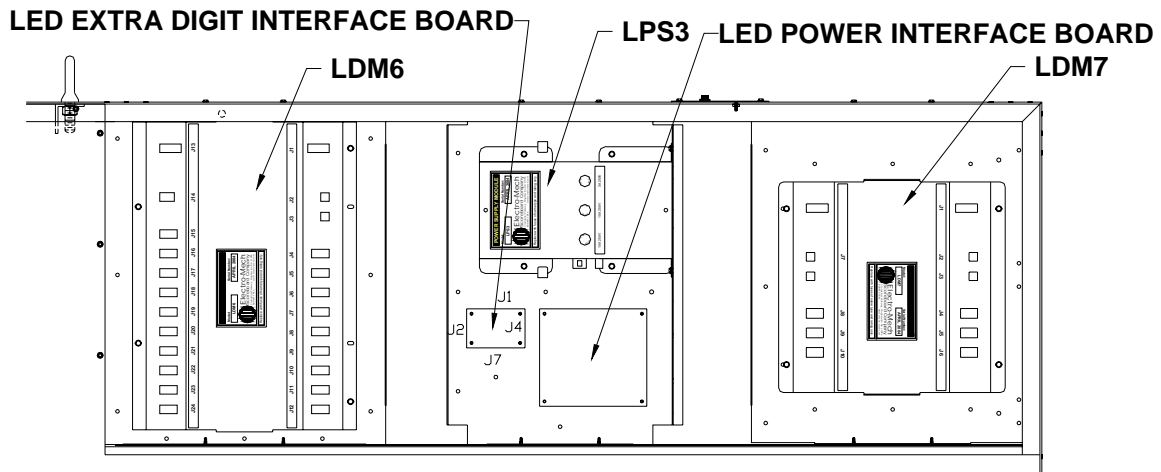

Figure 9 Electronic Components Locations
4. Remove the sheet metal screws that hold the panel on the scoreboard. Figure 9 shows the components behind the panel.